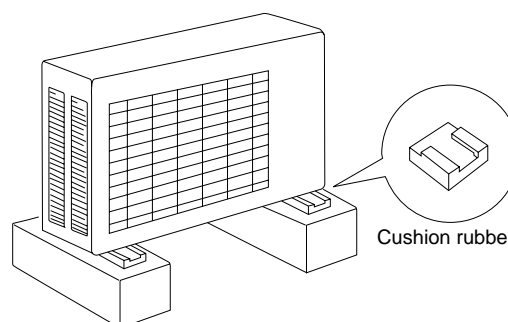

Fig. 4b
- install cushion rubber under unit's feet to reduce vibration and noise. (Fig. 4b)